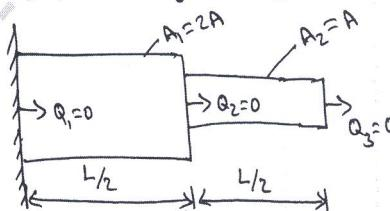

Fig Q10
- 10 Find the natural Frequencies and corresponding mode shapes for given stepped bar with Young's modulus 'E' and density ' ρ ' as shown in Fig Q10.